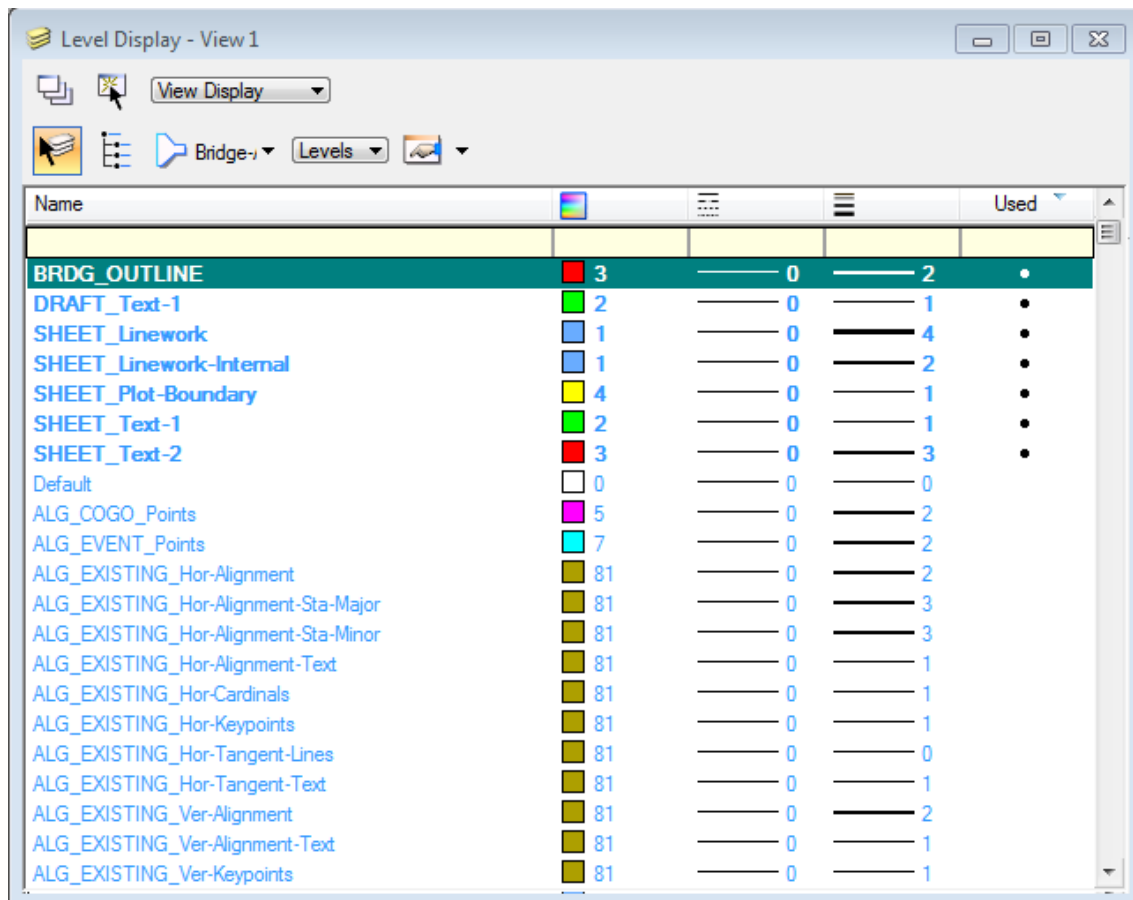

Fig. B.5-3 - Bridge Level Selection from the Level Display
3. Double click on a level in the level display window. (Fig. B.5-3)